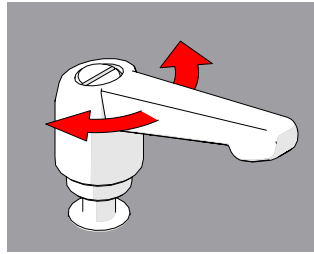

Fig. 240 - Rotate handle
2. Continue to pull while rotating the lever in the appropriate direction (*Fig. 240*).